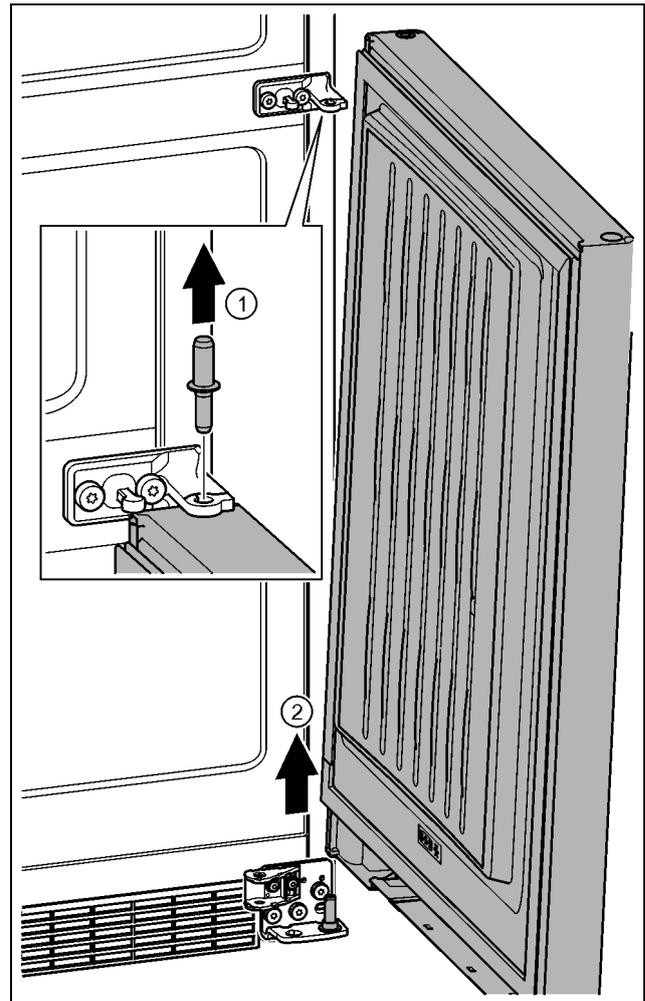

Fig. 22
- ▶ Pull out the bolts towards the top. Fig. 22 (1)
- ▶ Swing the door out, pull it upwards and set it aside. Fig. 22 (2)